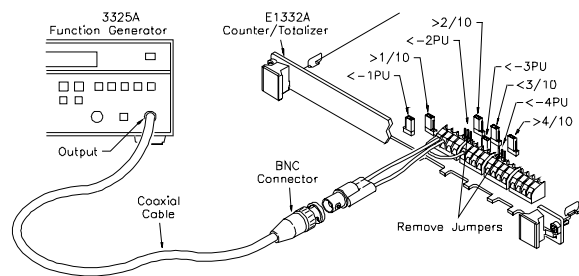

Figure 4-5. Gated Totalizing Test Setup
1. Connect the equipment as shown in Figure 4-5. Remove the pull-up jumpers for channels 2 and 4.